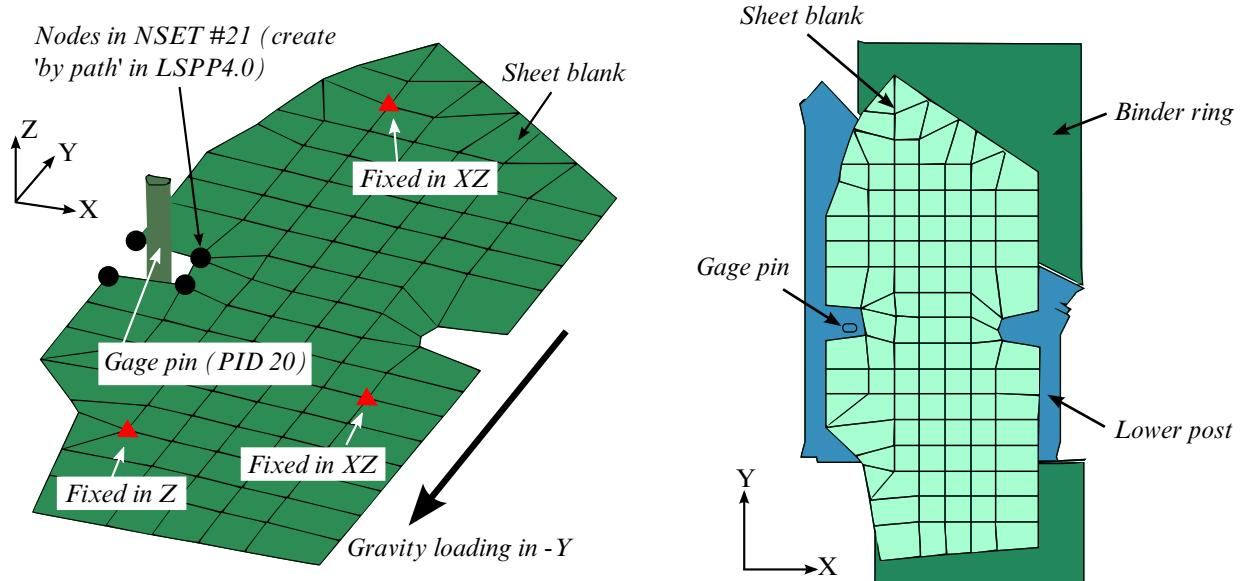

Figure 11-22. Illustrative/test model for SOFT = 6 (left) and initial blank position.
SOFT = 6 contact addresses contact issues in situations where blank gage pins are narrow or small and blank meshes are coarse (Figure 11-22 left), leading to missing contact in some cases. This feature applies to gravity loading and forming of a sheet blank with an adaptive mesh. It can *only* be used with *CONTACT_FORMING_NODES_TO_SURFACE. In addition, the variable ORIENT in *CONTROL_CONTACT must be set to "4". Currently this feature is available in double precision, SMP only.
1. **SURFA type.** SURFA must be a node set that includes the nodes along the entire blank edge or the portion of the blank edge that will be in contact with gage pins (see Figure 11-22 left) or the part ID (not part set ID) of the blank. In the node set case, the nodes in the node set must be listed in consecutive order, as defined by *path* in the LS-PrePost application, under *Model* → *CreEnt* → *Cre* → *Set Data* → *SET_NODE. Note that the blank edge and the gage pins do not have any thickness.
2. **Example.** In the partial keyword example below, node set ID 21 (SURFATYP = 4) is in contact with the gage pin of part set ID 20. As shown in Figure 11-22 (left), with the boundary condition applied, a blank with a very coarse mesh is loaded with a body force. The left notch is anticipated to be in contact with the gage pins. The initial position (top view) of the test model is shown in Figure 11-22 (right) and the final gravity-loaded blank positions are shown in Figure 11-23 (left) without SOFT = 6, and in Figure 11-23 (middle and right) with SOFT = 6. Without SOFT = 6, the contact between the blank edge and the pin is missed completely.